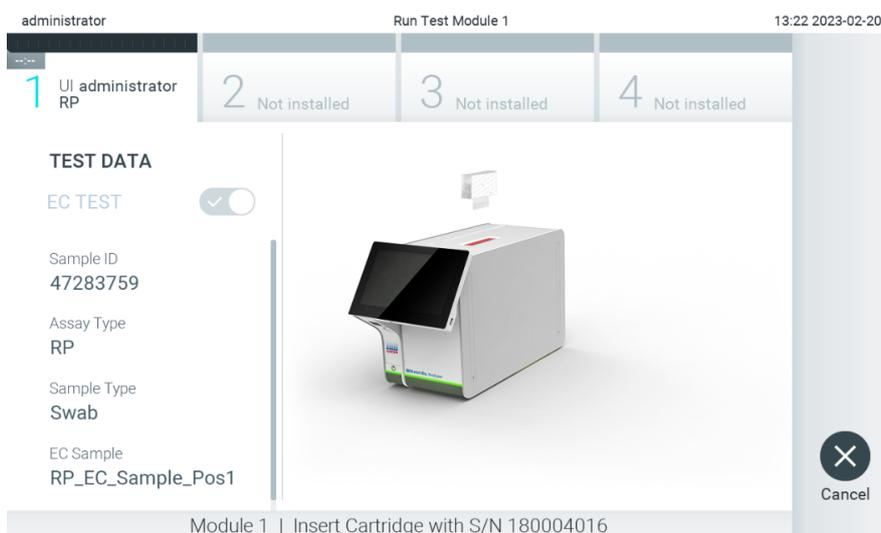

**Figure 96. The Confirm screen.**
7. The **Confirm** screen will appear. Review the data entered and make any necessary changes by pressing the relevant fields on the touchscreen and editing the information (Figure 96).